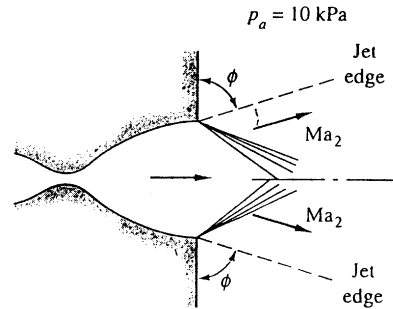

Fig. P9.147
**9.147** A converging-diverging nozzle with a 4:1 exit-area ratio and  $p_0 = 500$  kPa operates in an underexpanded condition (case 1 of Fig. 9.12) as in Fig. P9.147. The receiver pressure is  $p_a = 10$  kPa, which is less than the exit pressure, so that expansion waves